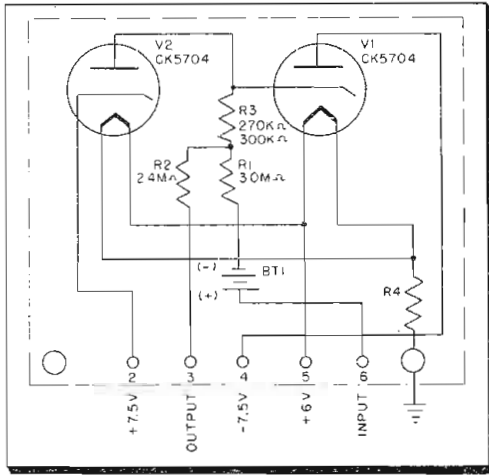

Fig. 6: Voltage compressor (see C of Fig. 1)
If the source is volts dc, it may require limiting or compressing. Units for this purpose are at positions (C)-(E) on Fig. 1. The circuit for the compressor is given on Fig. 6.